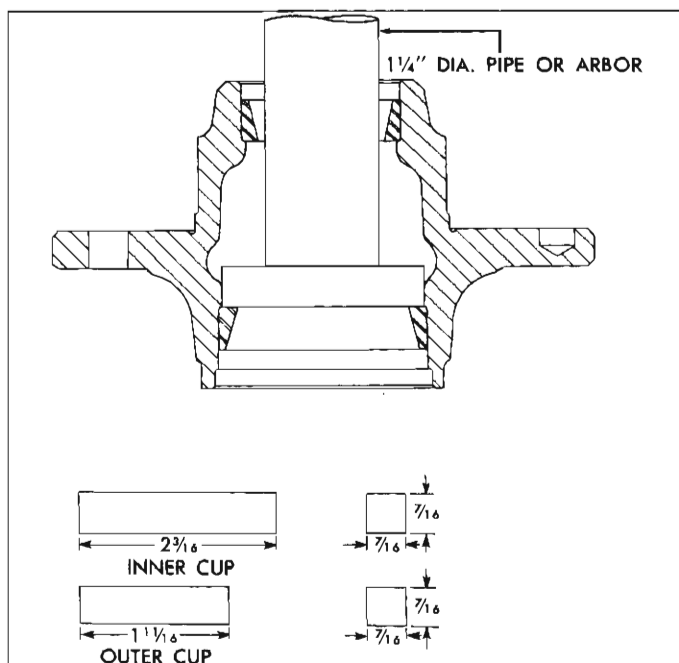

Fig. 5—Front Wheel Bearing Cup Removers
1. Make two bearing cup removers out of $\frac{7}{16}$ " square steel stock as shown in Figure 5.